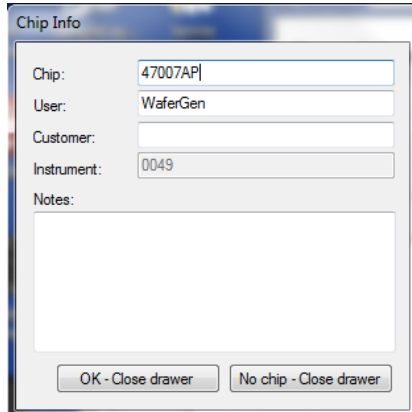

Figure 50. Chip Info dialog box.
- The *Chip Info* (Figure 50) dialog box will open. Enter values for “Chip”, “User”, and other requested information. This information will be included in the analysis files and Summary report.